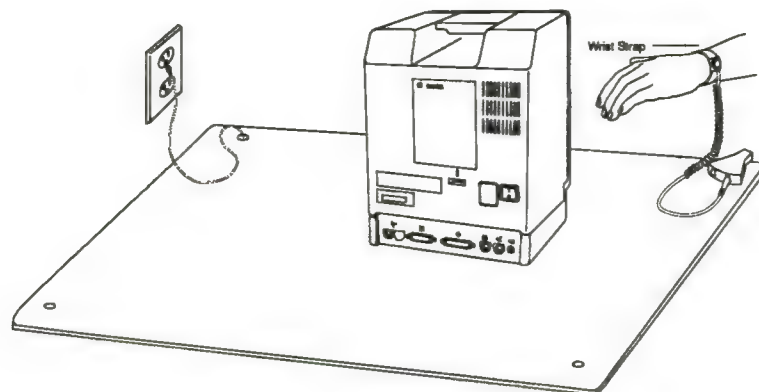

Figure 3. Grounding the wrist strap
4. Fasten the wrist strap ground cord to the workbench mat and connect the wrist strap, as shown in Figure 3. Put the wrist strap around your wrist so that the strap touches your skin.